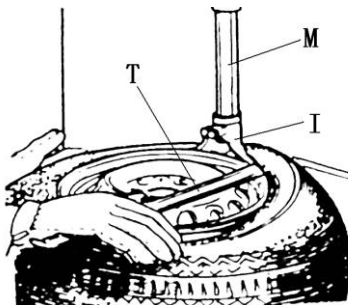

Fig 6
Lower the Vertical Arm (M) until the Mounting/demounting head (I) rests next to the edge of the rim, flip the Locking Handle (K) to lock the Vertical Arm and Swing Arm in position, and also adjust the Rocker Arm make Mounting/demounting head can raise 2-3mm automatically from the edge of the wheel rim. Insert the Lifting Lever (T) between the tyre bead and the front section of the mounting/demounting head (I), and move the tyre above the mounting/demounting head as shown as **Fig 6**.